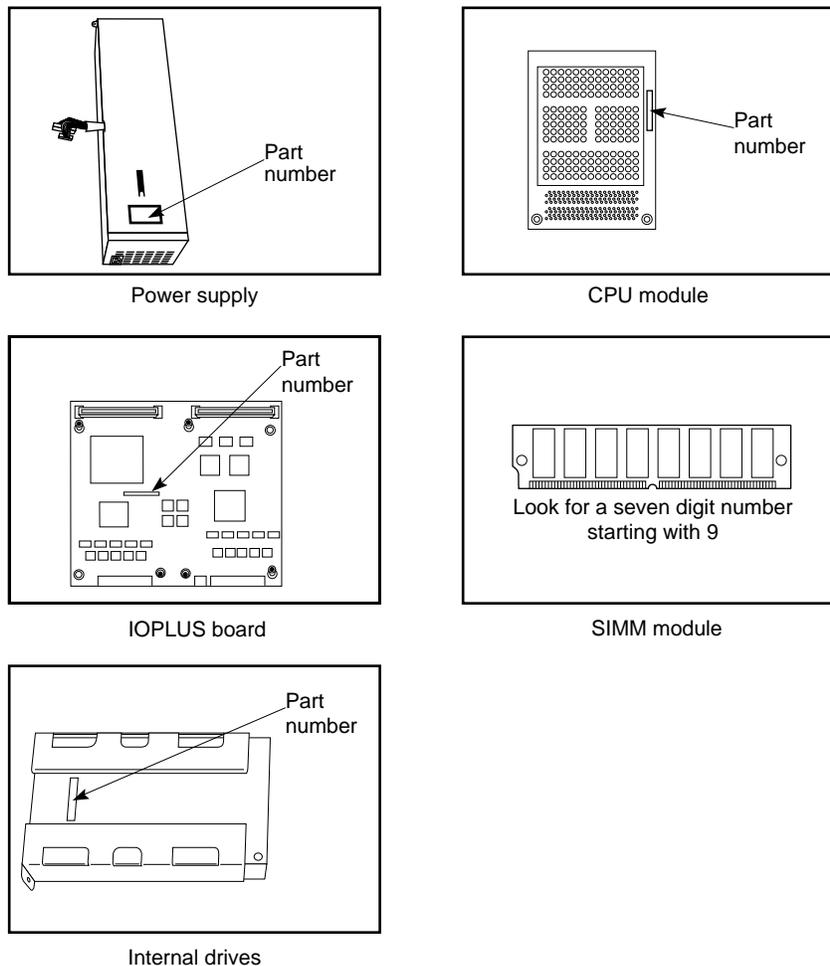
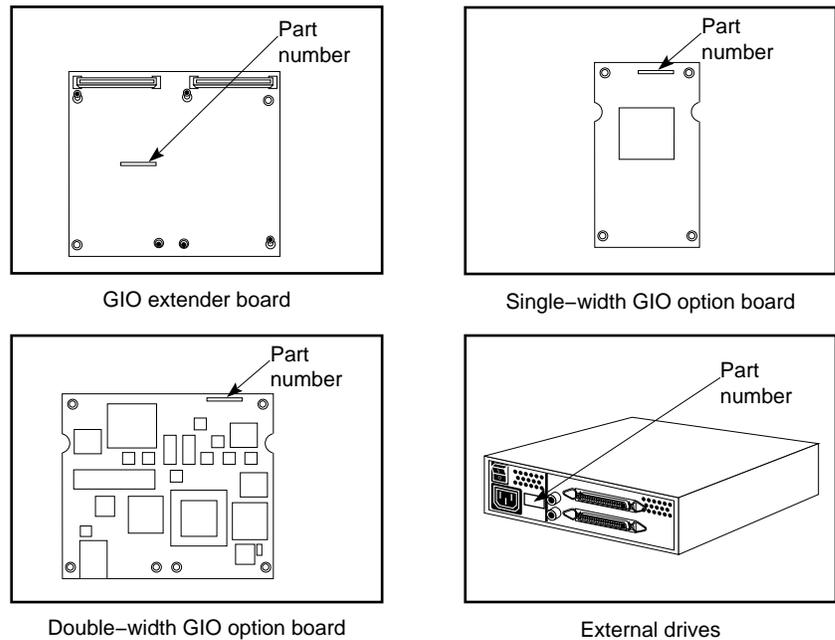

Figure 9-1 Part Number Locations for Standard System Components
Figure 9-2 Part Number Locations for Optional Components
If diagnostics have identified a faulty part, call your service provider. You will be instructed either to order a replacement part, or to ship the system back. If instructed to return the system, go to "Replacing the System". If asked to return the part, Figure 9-1 and Figure 9-2 will help you locate the part number of the faulty part.
6. Look the part number of the faulty part; it's shown on the part. (Refer to Figure 9-1 and Figure 9-2.)